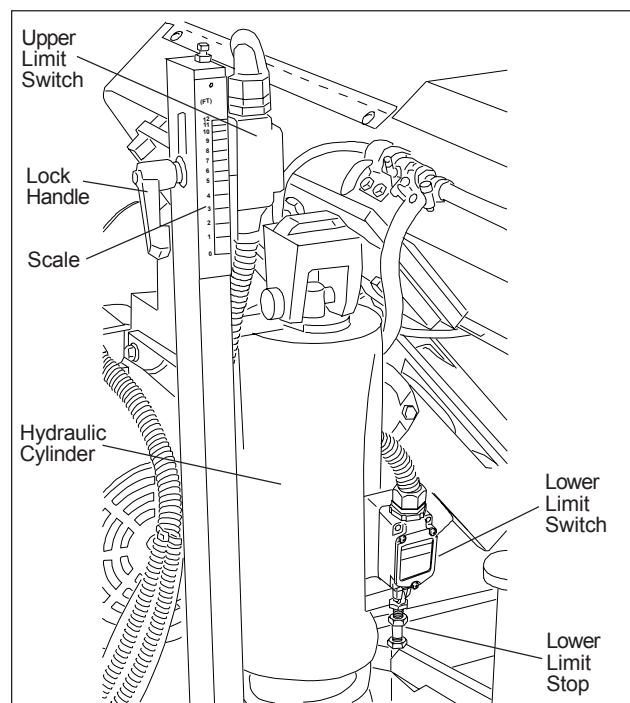

Figure 4: Limit Switches
1. To raise the saw head, press the Saw Head Up pushbutton. The saw head will raise until the upper limit switch (refer to Figure 4) trips.